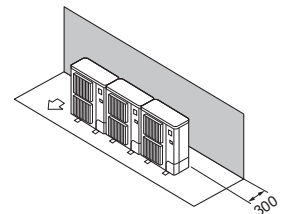

Fig. 2-9
- ① Obstacles at rear only (Fig. 2-9)